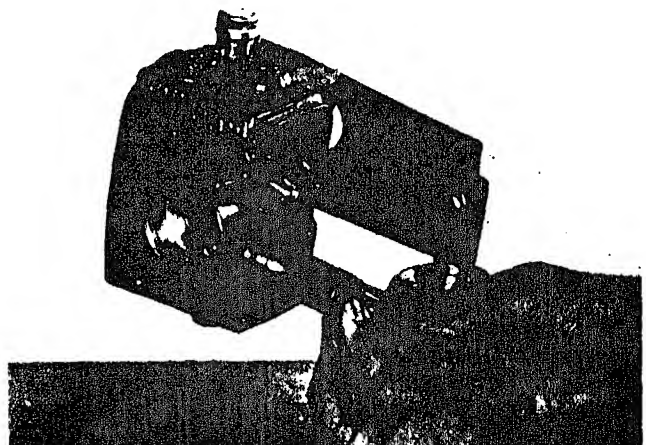

Fig. 507-7 Installing spring pack snap ring
2. Place the maximum-speed spring Table 507-4 over top of plunger guide and place shim against spring, installer and snap ring securing assembly into governor sleeve. Fig. 507-7.